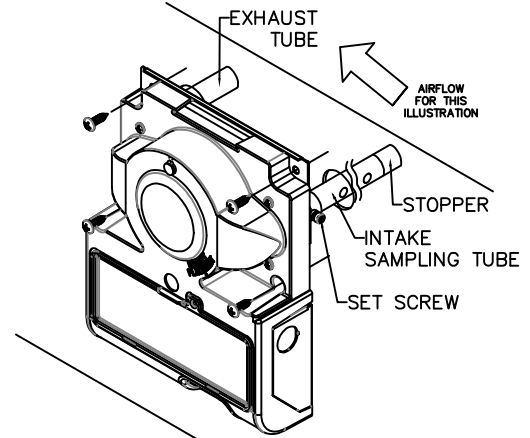

FIGURE 2. DH-100 MOUNTING
The Duct Detectors are designed for use in ducts where the air velocities are from 100 to 4000 feet per minute. See Figure 2 for sampling tube orientation to air flow direction.
C. SAMPLING TUBE ASSEMBLY (See Figure 2)
The sampling tubes may be ordered to a desired length or ordered in one of 3 standard lengths and cut per requirements. The intake sampling tube consists of a piece of steel piping with a series of holes drilled the entire length of the tube and should extend the entire width of the duct. The holes must be facing into the air flow (see Figure 2). The exhaust tube consists of a piece of steel piping approximately 7-1/2" long.
D. MOUNT SAMPLING TUBES (See Figure 2)
1. Sampling tube connectors are equipped with set screws, which allow the tubes to be mounted only in directions shown in Figure 2. Establish proper orientation considering airflow direction.